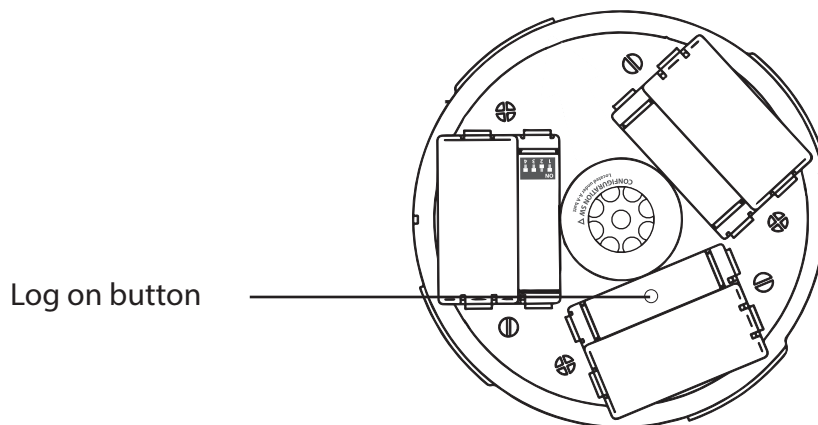

Figure 2
- 3 - Ensure all but one batteries are fitted, leaving out the one that covers the log on button - as shown in Figure 2.